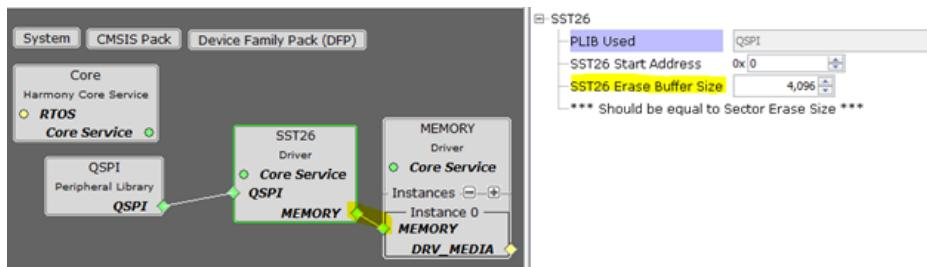

Figure-3 SST26 Driver with Connection to Memory Driver
3. This option appears only when SST26 Driver is connected to Memory Driver for block operations. Refer Figure-3